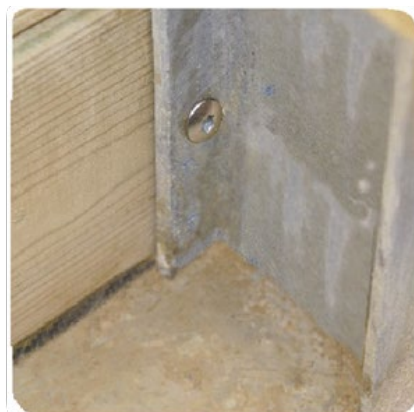

Figure 8 – Fastening the slats to the supporting braces
- fix them to the 2 supporting braces (these are pre-drilled, as shown in *Figure 8*) using the 14 A2 SS torx hinge screws 6 × 30 (bag C).